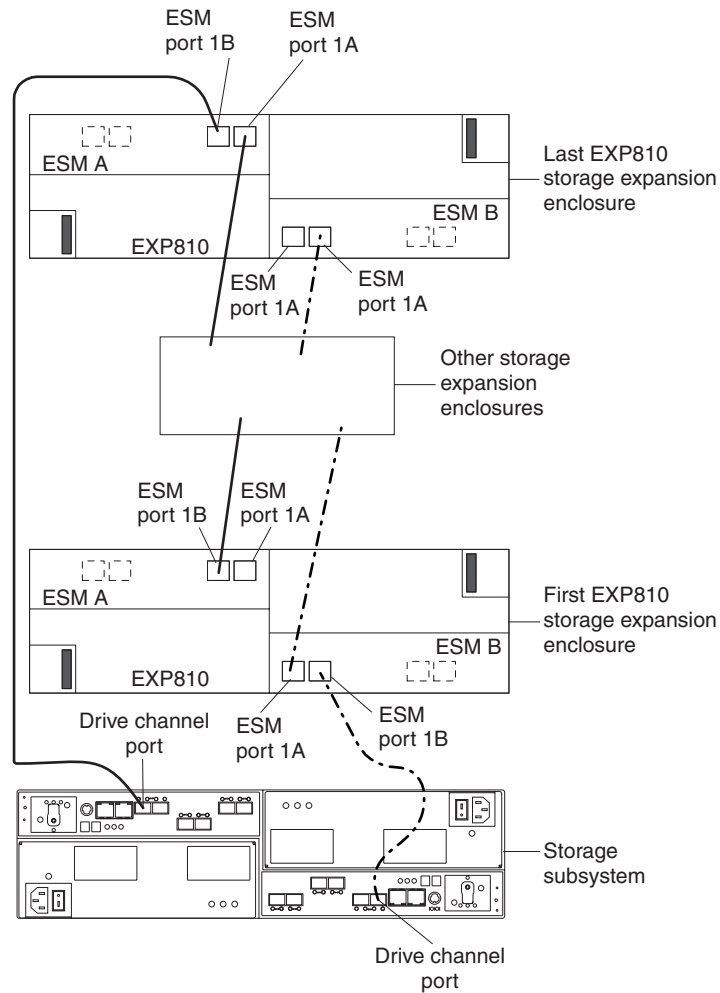

Figure 44. DS3950 drive ports connected to EXP810 ESM ports labeled 1B
10. The controller drive ports of the DS3950 storage subsystem controllers must always be connected to ports labeled 1B in both the right and left ESMs of the EXP810s in the redundant drive channel/loop pair that is connected to the DS3950 storage subsystem. Figure 44 on page 67 shows the location of the ports.